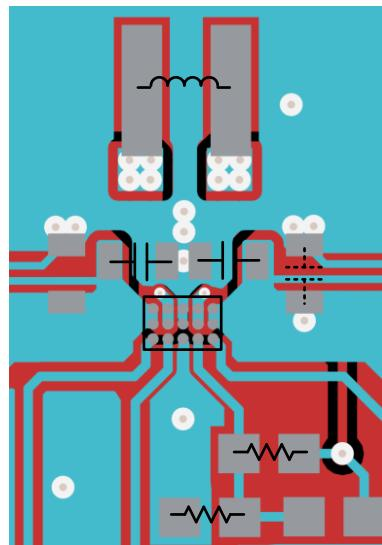

图 69. TPS63805 and TPS63806 Layout
2. Separate AGND and PGND. Do not connect AGND and PGND directly at the IC. See 图 69 as an example.